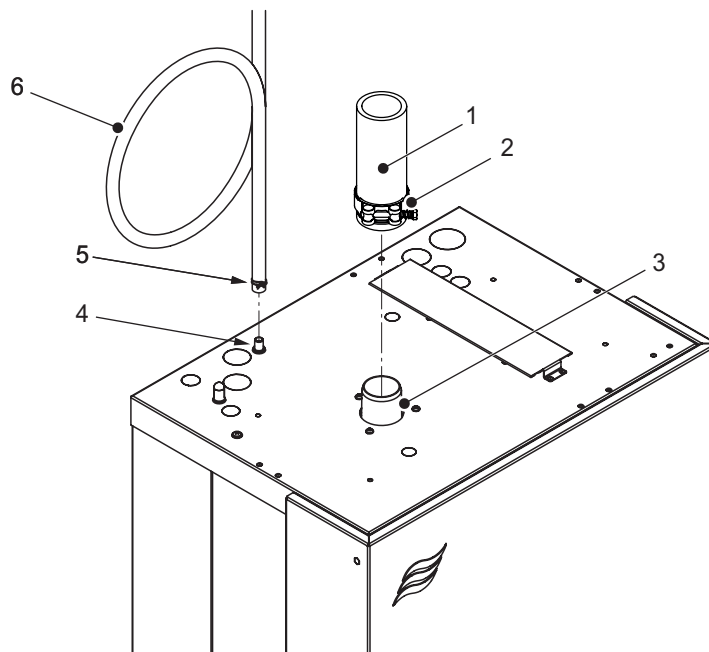

Figure 12: Hose Connections on Humidifier
Refer to Figure 12.
- a. Connect the steam hose to the steam adapter on the humidifier, and secure it with a hose clamp (supplied). Do not over-tighten the hose clamp – maximum torque is 180 N·cm. Refer to Figure 12.